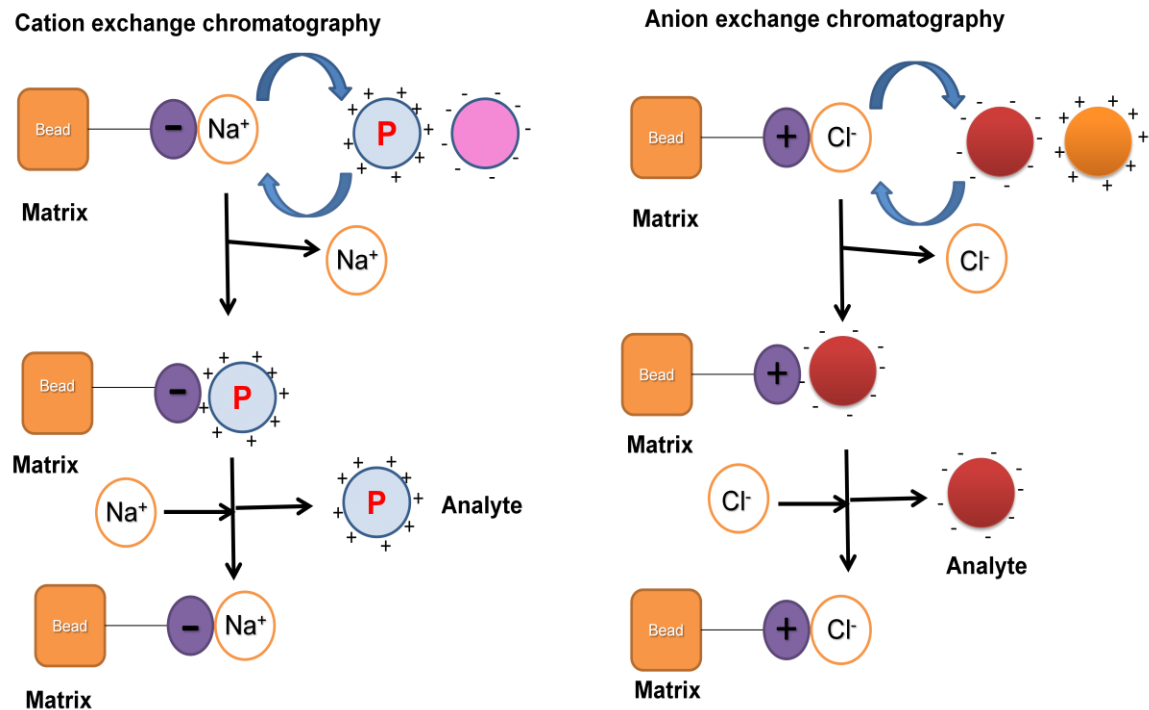

Figure 30.2: Cation and Anion exchange chromatography.
1. Cation exchange chromatography- In cation exchange chromatography, matrix has a negatively charged functional group with a affinity towards positively charged molecules. The positively charged analyte replaces the reversible bound cation and binds to the matrix (Figure 30.2). In the presence of a strong cation (such as Na^+) in the mobile phase, the matrix bound positively charged analyte is replaced with the elution of analyte. The popular cation exchangers used are given in Table 30.1.
2. Anion Exchange chromatography- In anion exchange chromatography, matrix has a positively charged functional group with a affinity towards negatively charged molecules. The negatively charged analyte replaces the reversible bound anion and binds to the matrix (Figure 30.2, B). In the presence of a strong anion (such as Cl^-) in the mobile phase, the matrix bound negatively charged analyte is replaced with the elution of analyte. The popular anion exchangers used are given in Table 30.1.